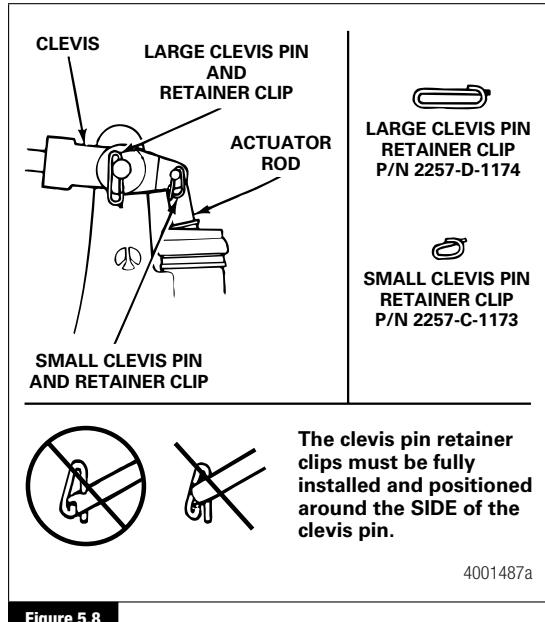

Figure 5.8
- Install new clevis pin retainer clips or cotter pins to secure the clevis pins. Retainer clips must be fully installed and positioned around the side of the clevis pin. Figure 5.8.